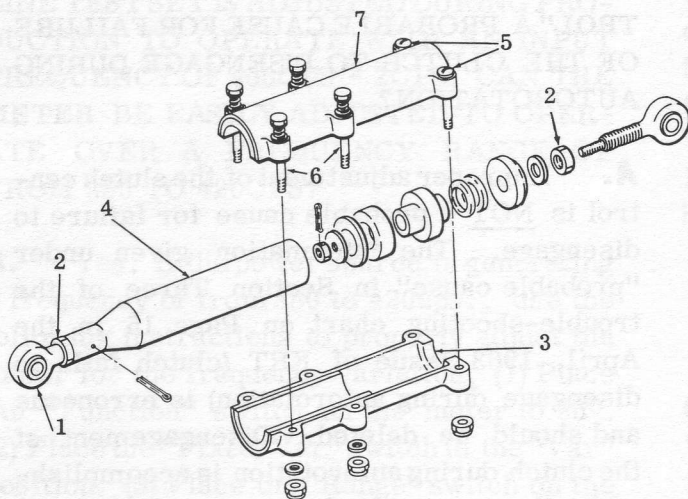

FIGURE 1
**DESCRIPTION:** The damper (reference Fig. 1) consists primarily of two major components, an aluminum tube assembly (4) and a split sleeve (7 and 3). The tube assembly is plated with a very tough, long-lasting Martin hard coat finish and slides between the halves of the split sleeve. The sleeve halves are lined with a brake lining material and are adjustable. Adjustments
procedure will provide a friction setting of 115 to 125 lbs. (NOTE: An initial breakaway pull of more than 17 lbs. will be needed in order to obtain the required steady 17-lb. pull.) (d) Tighten the two shoulder bolts (5) ensuring that a 0.005 to 0.020 clearance exists between the shoulder bolt nut and the sleeve (see end view, Fig. 1). This will ensure correct alignment of sleeve half. (e) Establish a 45° angular relationship between the rodends and the gap between the sleeve halves. This can be accomplished as follows: 1. Place the damper on a flat surface with the friction setting bolt heads (6) down. 2. Next, sight down the damper from the small end and turn the rodends from a vertical position to 45° in a counter-clockwise direction. (f) Tighten the rodend locknut (2) at the large end of damper. Recheck the friction setting to ensure that 115 to 125 lbs. is maintained. (NOTE: Tightening lock nut can cause misalignment of sleeve halves resulting in friction drop-off.) Repeat same procedure on all four blade dampers. After all dampers have been adjusted and fall within the friction tolerances, the next step is to set the nominal length. This is done by compressing the damper fully and placing a pencil mark on the tube (4) adjacent to the edge of the sleeves (7 and 3). Next, withdraw the tube 1-1/8 inches from the sleeve. This locates the tube at the midpoint of its travel. Then adjust the tube (small end) rodend (1) so that a setting of 16.5 inches is obtained between the two rodend centers. This is damper neutral. The dampers are now ready for installation between the blade grip arms of the opposing blades.